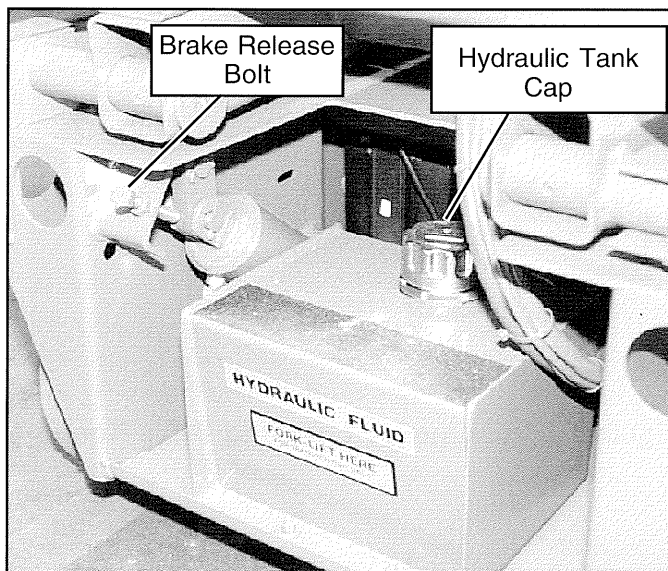

Figure 2-6: Chassis Rear View
2.8 Parking Brake Release (Figure 2-6)